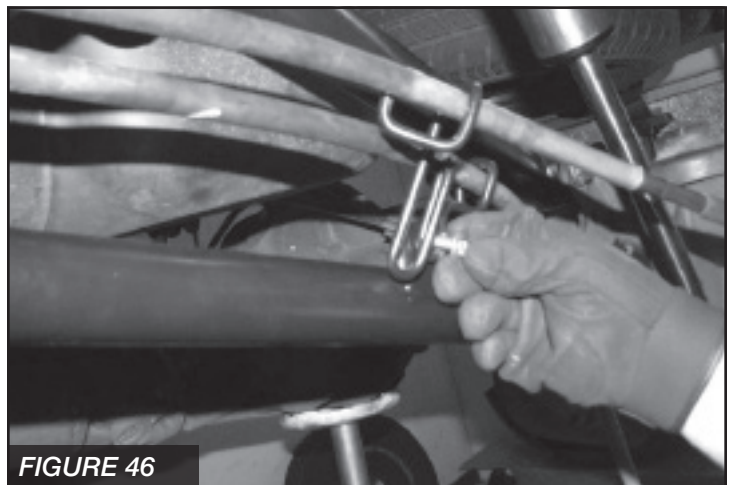

FIGURE 46
64. Attach the E brake cable to the tab on the link arm using 5/16" hardware. **SEE FIGURE 46**